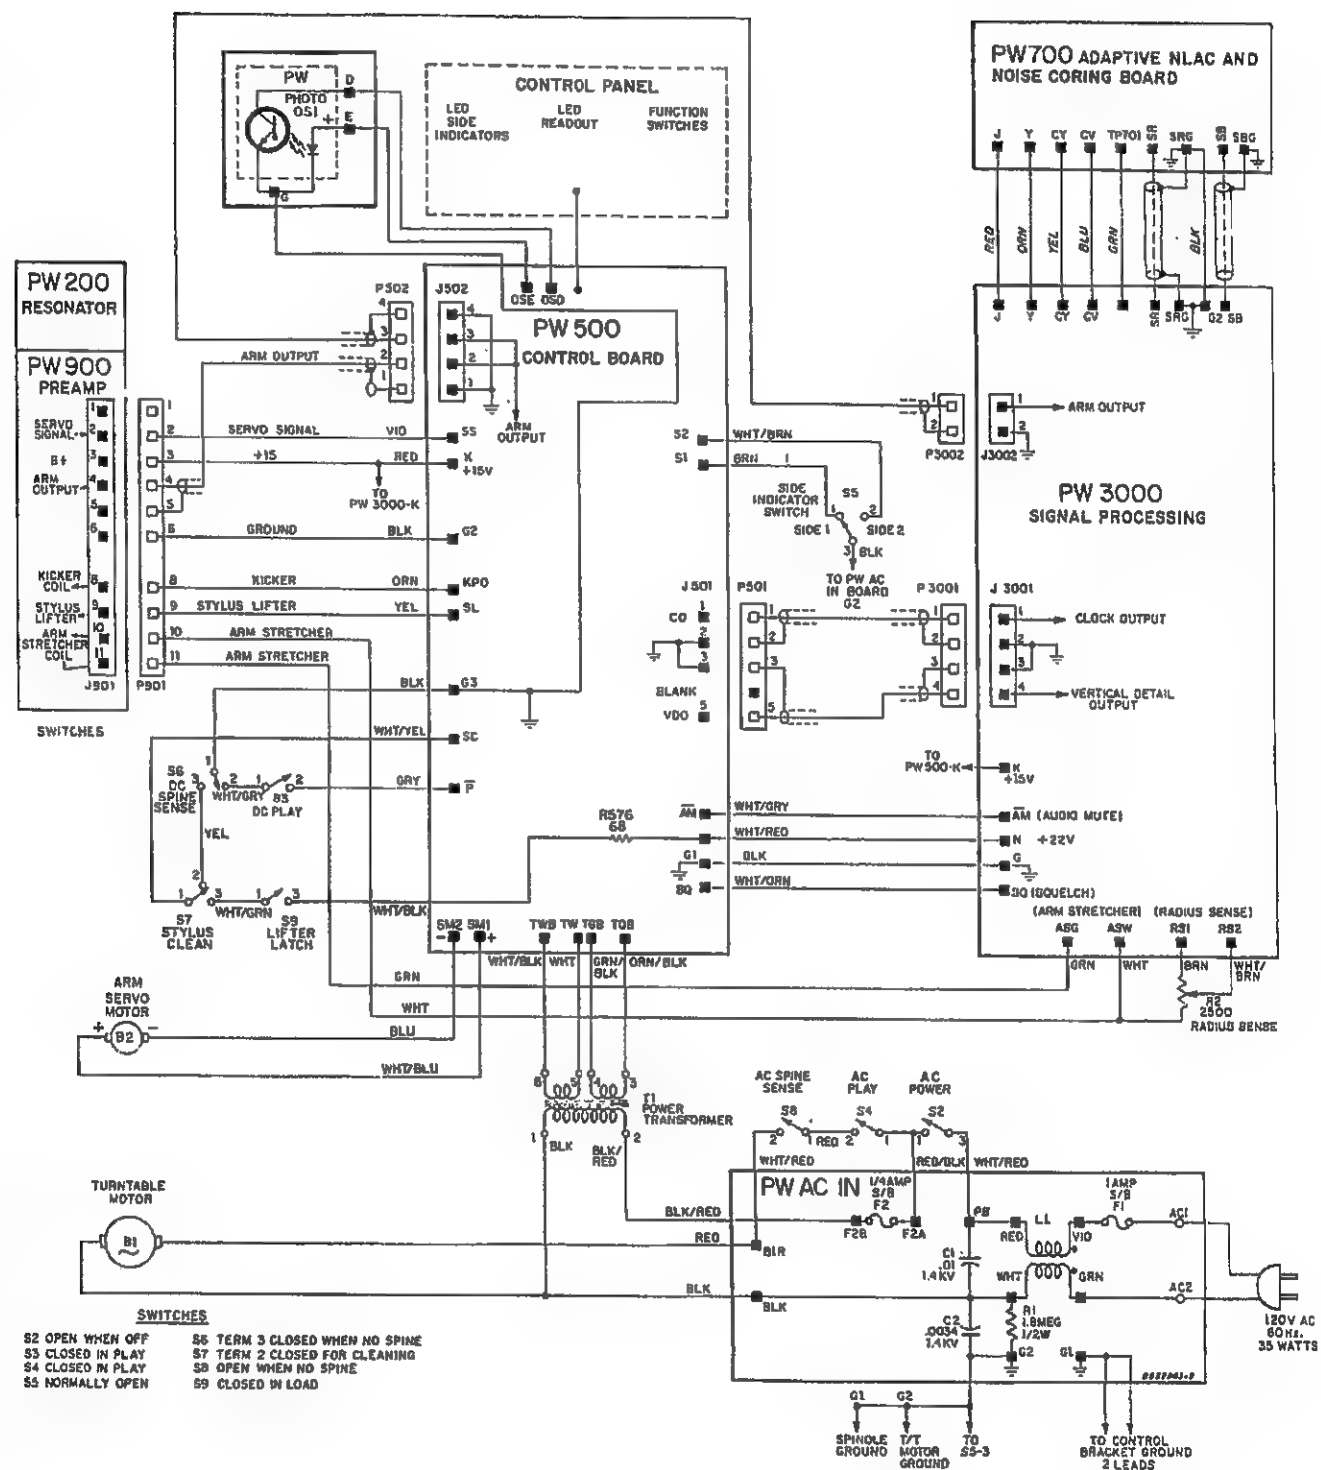

Fig. 5-2. — SFT 100 Interconnect Wiring Diagram
7. Turn player power off and connect marker generator output to TP 3501 marker generator set at 56.75 MHz (Fig. 5-2).
13. Connect marker generator to junction of R3514 and R3516 (Fig. 5-2).
1. Connect frequency counter via X10 probe to TP 3413 (Fig. 5-2).
2. Connect oscilloscope to TP 3601 (Fig. 5-2).
1. Connect DVM from TP 3406 to ground (Fig. 5-2).
1. Connect frequency counter, via X10 probe (see Note), to TP 3404 (Fig. 5-2).
2. Connect oscilloscope to TP 3403 (Fig. 5-2).